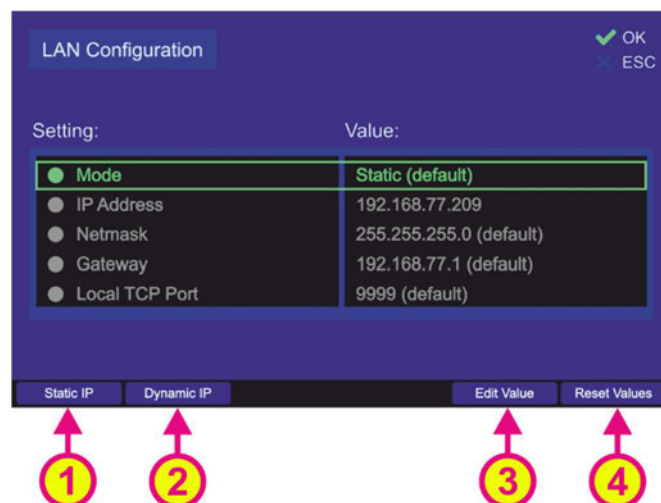
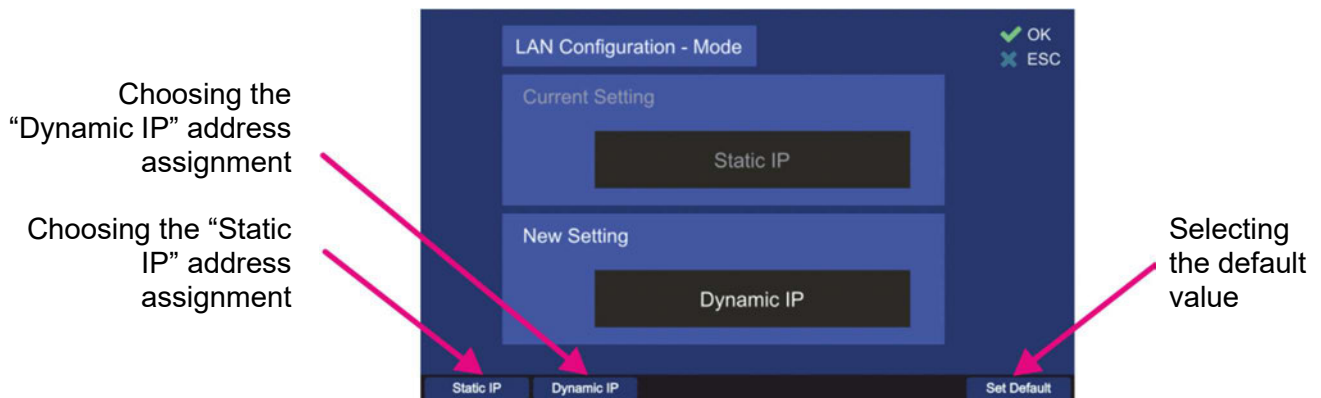

Figure 148. LAN configuration menu
Figure 149. Changing the mode of the IP address assignment
Following sub-menu will appear (s. Figure 148).
Pressing the hotkey “Reset Values” (s. Figure 148, position 4) will set all menu items to the default values.
- o IP address assignment can be changed directly using the hotkeys “Static IP” and “Dynamic IP” (positions 1 and 2, s. Figure 148), so that the value of this setting is changed without opening the dialog, or it can be set over the corresponding dialog after pressing the hotkey “Edit Value” (s. Figure 148, position 3) while this menu point is marked, the following dialog opens (s. Figure 149).
- o Choose the new setting using one of the hotkeys (s. Figure 149), which will then appear in the “New Setting” field.
- o For changing the IP address press the hotkey “Edit Value” while this menu point is marked (s. Figure 148, position 3).
- For changing the netmask press the hotkey “Edit Value” while this menu point is marked (s. Figure 148, position 3).
- For changing the gateway press the hotkey “Edit Value” while this menu point is marked (s. Figure 148, position 3).
- For changing the port press the hotkey “Edit Value” while this menu point is marked (s. Figure 148, position 3).